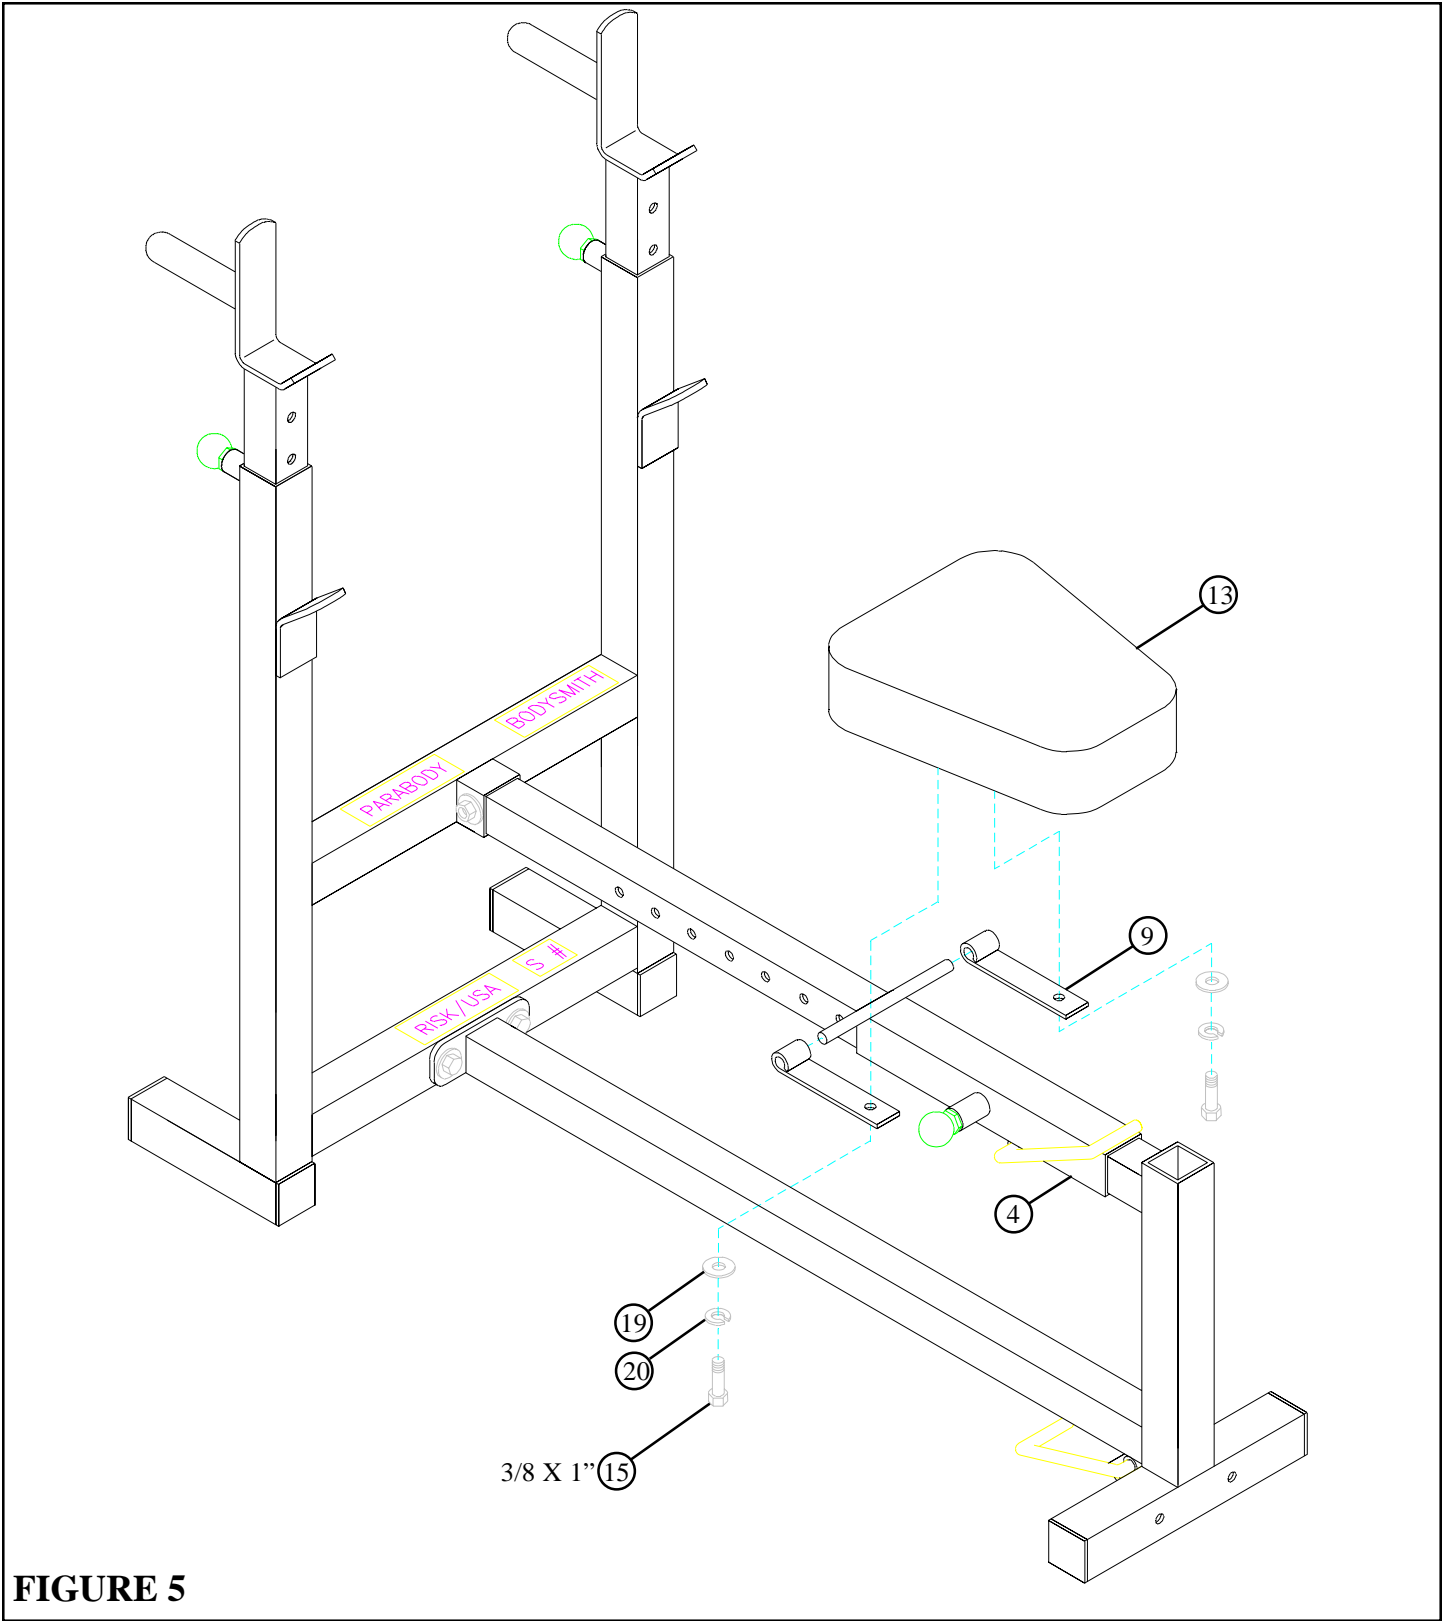

**FIGURE 4**
- Attach eight PARAGLIDE STRIPS (31) to both UPRIGHT TUBES on the UPRIGHT FRAME (1) (FOUR ON EACH END) as shown in FIGURE 4 using the following steps:
- Attach eight PARAGLIDE STRIPS (31) to each SADDLE (6) (FOUR ON EACH END) as shown in FIGURE 4.
- Slide two 1-1/4 X 5" GRIPS (30) over the DIP HANDLES of both SADDLES (6). **(IF A LUBRICANT IS REQUIRED, COAT THE INSIDE OF THE GRIP WITH RUBBING ALCOHOL.)**
- Pull back the SPRING PIN on the UPRIGHT TUBES, and insert the SADDLES (6) as shown in FIGURE 4.. Slide the SADDLE (6) down to the desired height and release the SPRING PIN into the hole.
- Secure the SADDLES (6) in place with two THUMBSCREWS (29) as shown in FIGURE 4. When ready to perform the DIP EXERCISE, simply insert the SADDLES (6) into the UPRIGHT TUBES and tighten the two THUMBSCREWS